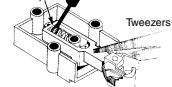

FIG. 4
3. Place coupler and Draft Gear Box together. While holding (optional Kadee® "1020 Tweezers"), install Centering Spring into spring slot (behind post except the "806 Coupler the Centering Spring is placed in front of post) using a Kadee® "241 Spring Pic" or small screwdriver wedged between the last two coils of the spring, see Fig.4 & 4B.
using a Kadee® "241 Spring Pic" or small screwdriver wedged between the last two coils of the spring, see Fig.4 & 4B.